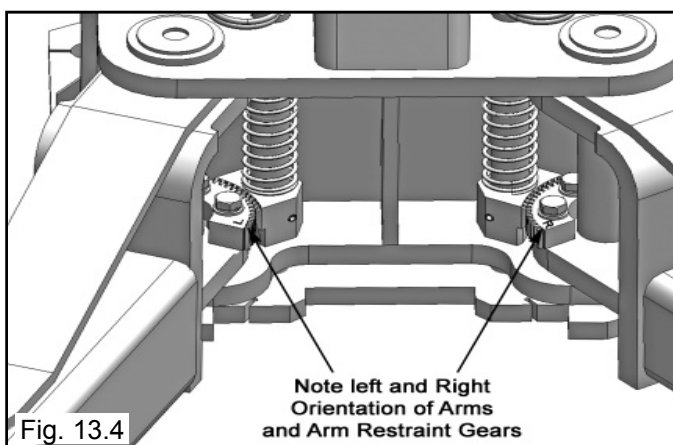

Fig. 13.4
- Each Arm Restraint Gear can be oriented in a Left or Right configuration on the Arms. Each Arm and Arm Restraint Gear must be positioned in the proper location on the Lift Head. (See Fig. 13.4 & 13.5)